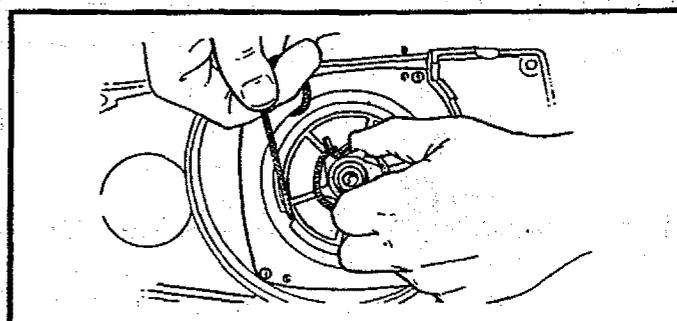

Figure 49
15. Pull out 12 inches of rope and catch the rope in the slot in the pulley. Figure 49.